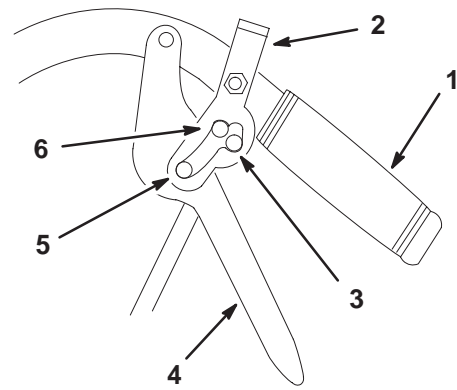

Figure 22
Pull the parking brake lever rearward (Fig. 22).
2. Place thumbs on the upper part of of locks and move them back (Fig. 22).
2. Place thumbs on the upper part of of locks and move them forward until in forward slot (Fig. 22).